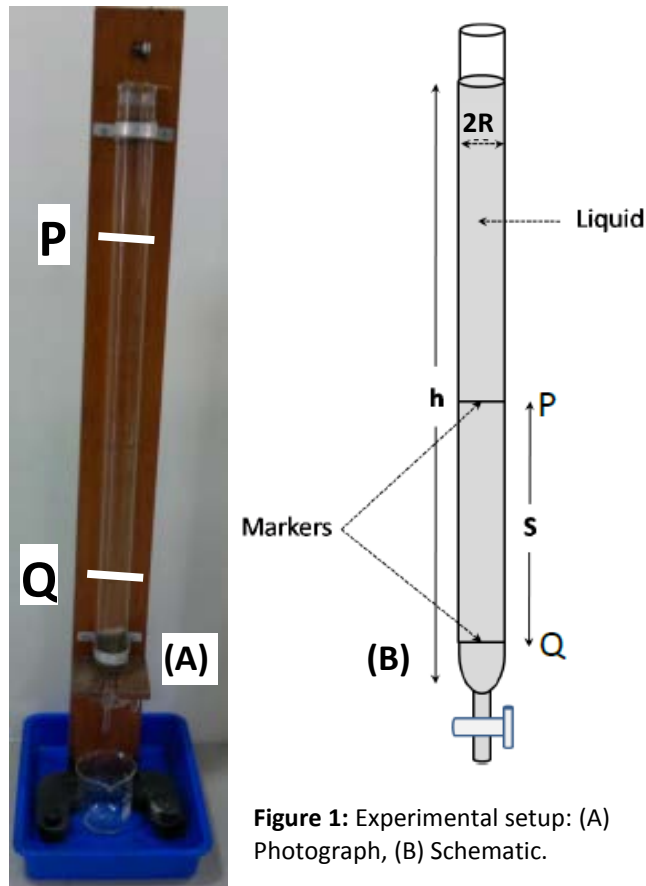
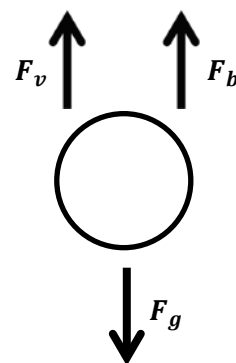

Figure 1: Experimental setup: (A) Photograph, (B) Schematic.
Figure 2: Force directions.
Experimental apparatus: The main experimental apparatus (Fig. 1) consists of a glass tube containing the experimental liquid. P and Q are two adjustable reference marks along the tube length. The entire glass system is supported by a wooden stand. Besides this you will need a few steel balls of different diameter, screw gauge, digital balance, vernier calliper, stop watch, and meter scale for this experiment.
Principle of the experiment: A body moving in a fluid is acted on by a frictional force in the opposite direction of its velocity. The magnitude of this force depends on the geometry of the body, its velocity, and the internal friction of the fluid. A measure for the internal friction is given by the dynamic viscosity η . For a spherical ball of radius r moving at velocity v in an infinitely extended fluid of dynamic viscosity η , G. G. Stokes derived the viscous force to be: $F_v = 6\pi\eta rv$ (1). If the spherical ball (density ρ) is dropped from rest at the upper surface of a vertical liquid (density σ) column (as in Fig. 1), gravitational force $F_g = \frac{4}{3}\pi r^3 \rho g$ (g = acceleration due to gravity) and buoyancy force $F_b = \frac{4}{3}\pi r^3 \sigma g$ act on it besides viscous force $F_v = 6\pi\eta rv$. Directions of forces are schematically shown in Fig. 2.
1. Set the pointer **P** at about **10** cm below the top surface of the liquid column. (The distance of the pointer **P** should be chosen such that by the time a ball reach at **P**, it should attain terminal velocity. So, you should check if the balls are attaining terminal velocity before reaching at **P**.) Set the pointer **Q** about **80** cm below the pointer **P** (Fig. 1). Measure the actual distance **S** between **P** and **Q** using a meter scale and record data in tabular form.
8. Use Eq. (3) to calculate coefficient of dynamic viscosity η for different size of balls. Calculate average η .